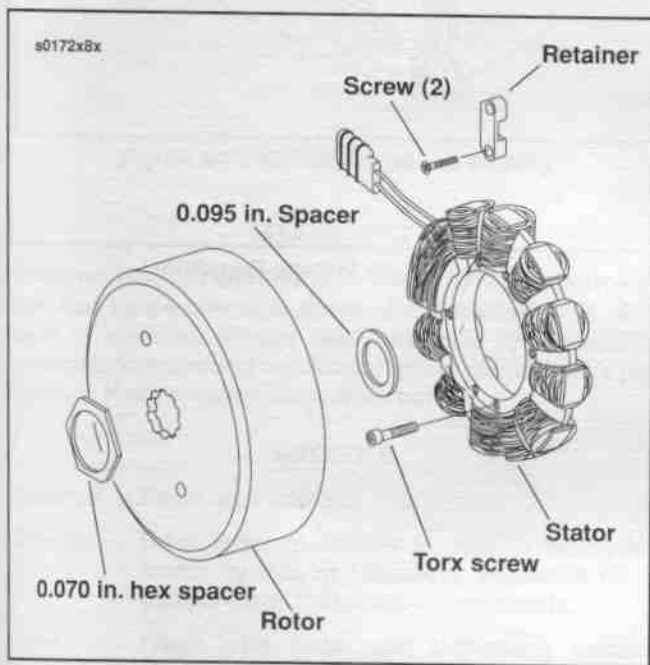

Figure 8-22. Rotor and Stator Mounting
2. See Figure 8-22. Pull off the alternator rotor using two bolts inserted through the holes in the rotor face. Remove the spacer.